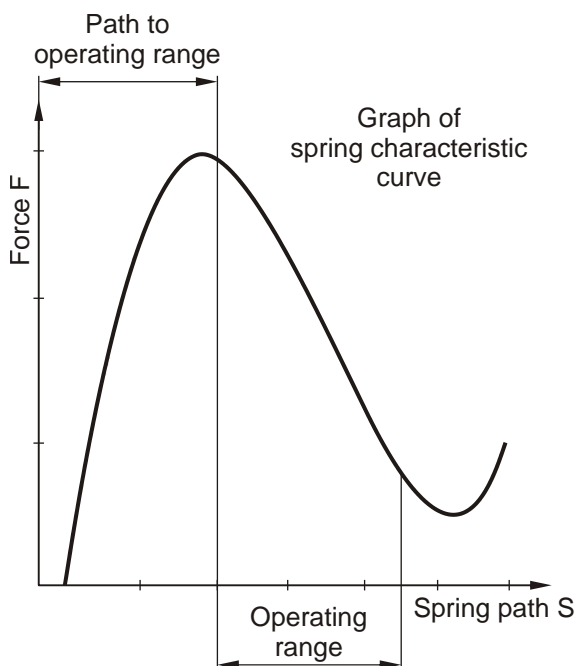

Fig. 10
The respective torque adjustment range is printed on the Type tag (23). Torque adjustment is carried out by turning the adjusting nut (6). The installed cup springs (10) are operated in the negative range of the characteristic curve (see Fig. 10); this means that a stronger pre-tensioning of the cup spring results in a decrease of the spring force.